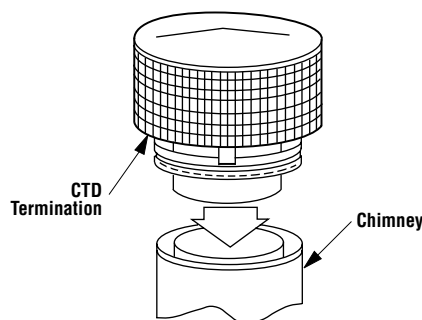

Figure 30
1. Hold the FTF8/FTF10-CTD over top of last chimney section (Figure 30).